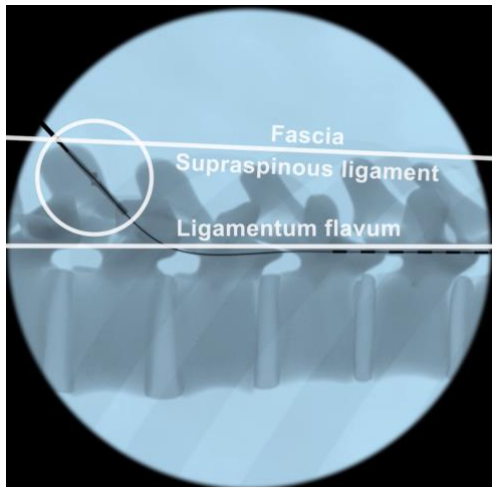

Figure 8
9. Remove the locking clip and pull the Injectroductor out slowly, verify final placement of SandShark Anchor with another lateral X-ray. (Figure 8)